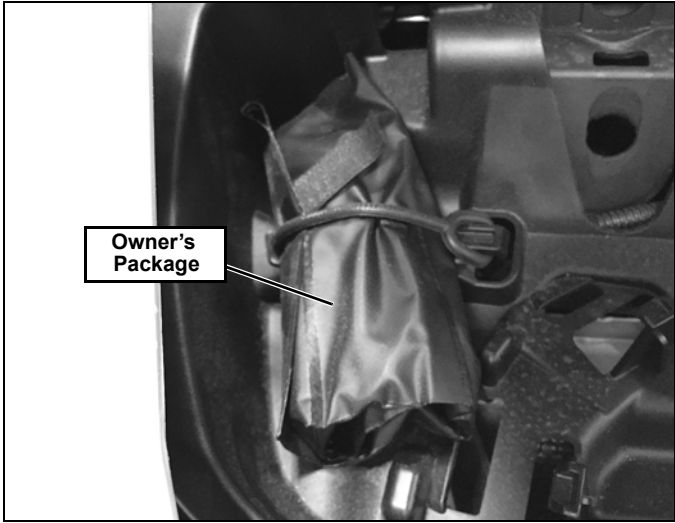
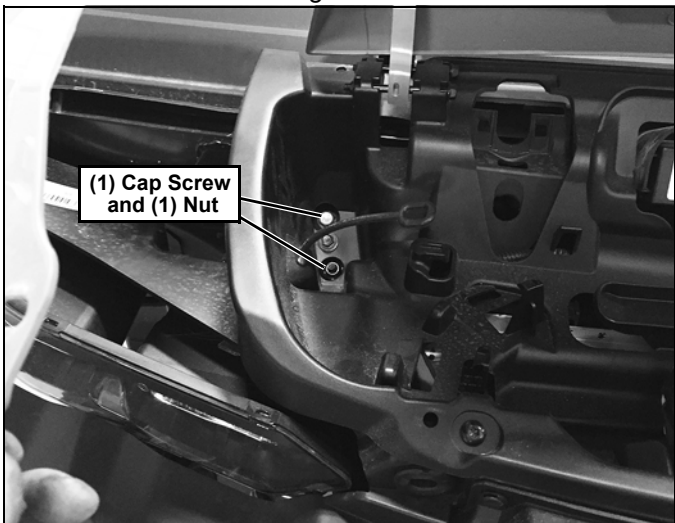

Figure 3
Figure 4
3. Repeat step 2 on the passenger side. NOTE: It is necessary to remove the owner's package as well as pull the passenger side fender back to gain access to the (1) Cap Screw and (1) Nut. (See Figure 3 and Figure 4.)